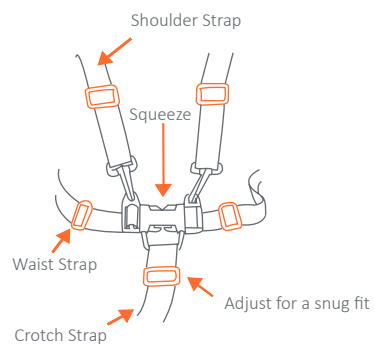

Fig. 13c
- Carefully place the child in the stroller seat and bring the safety harness around the child's waist and over the shoulders. Place the crotch strap between the child's legs. Insert the male end of each shoulder/waist belt into the buckle on the crotch strap. Tighten the harness to be snug around the child's waist and over the child's shoulders (Fig. 13c).